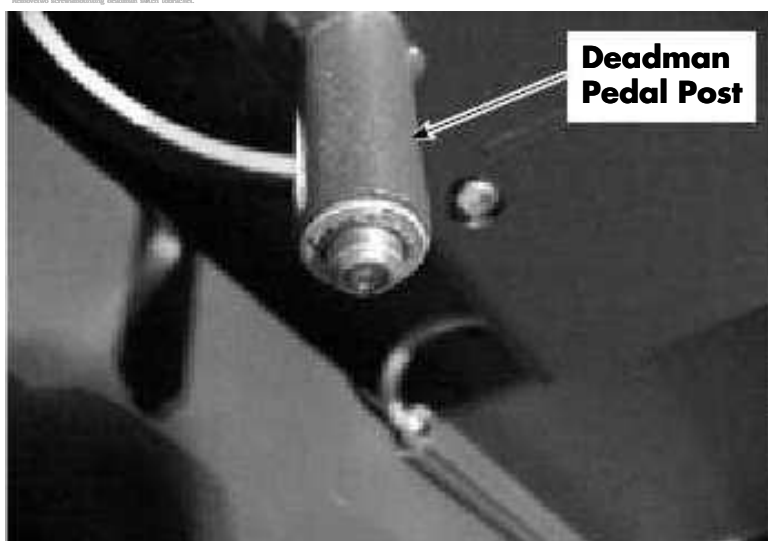

Figure 7-20. Deadman Pedal Post Under Platform
4. Remove snap ring from bottom of deadman pedal post. See Figure 7-20.